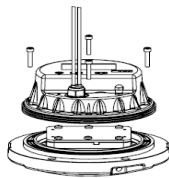

Figure 5-5
- Unplug the line connector of the LED lamp and circuit board and separate the upper cover and inner cover of the lighting fixtures (Figure 5-5).